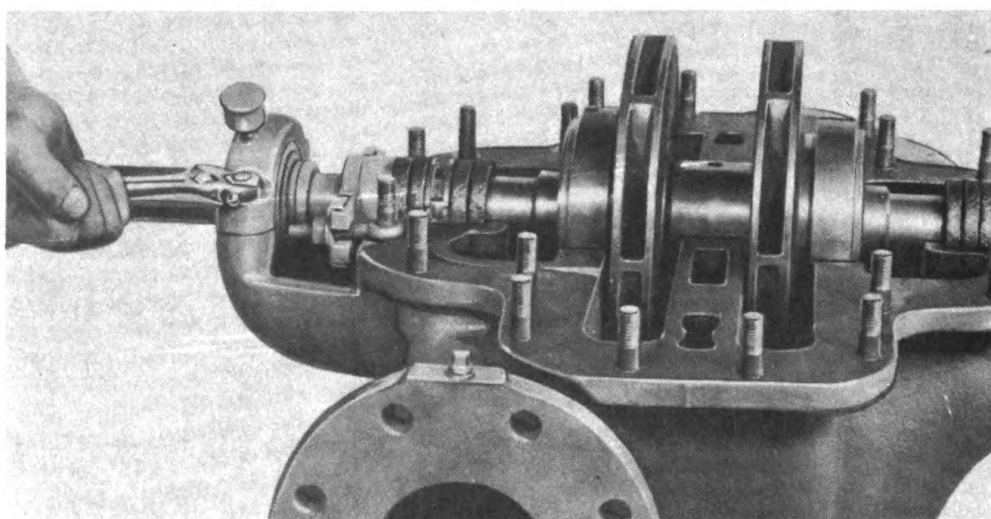

Figure 35—Removing Bearing Caps
b. The next step is to remove the two nuts holding the ball bearing cap on both ends of the assembly. (Figure 35.) Loosen the nuts on the swing bolts holding the packing glands in position and remove the gland halves. Then lift the rotating element free of the lower shell half.